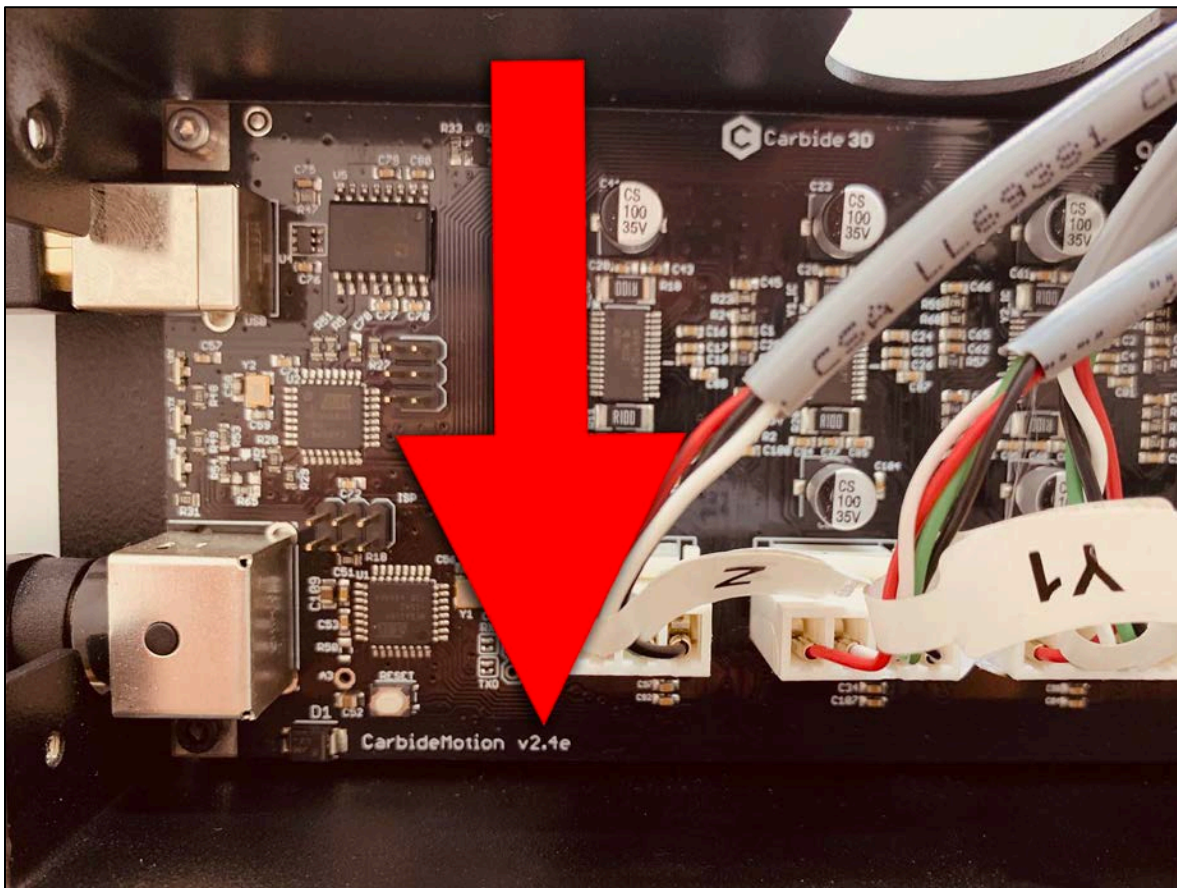

Figure 10
2. Look in the bottom-left corner of the PCB for the board version number. See *Fig. 10*.